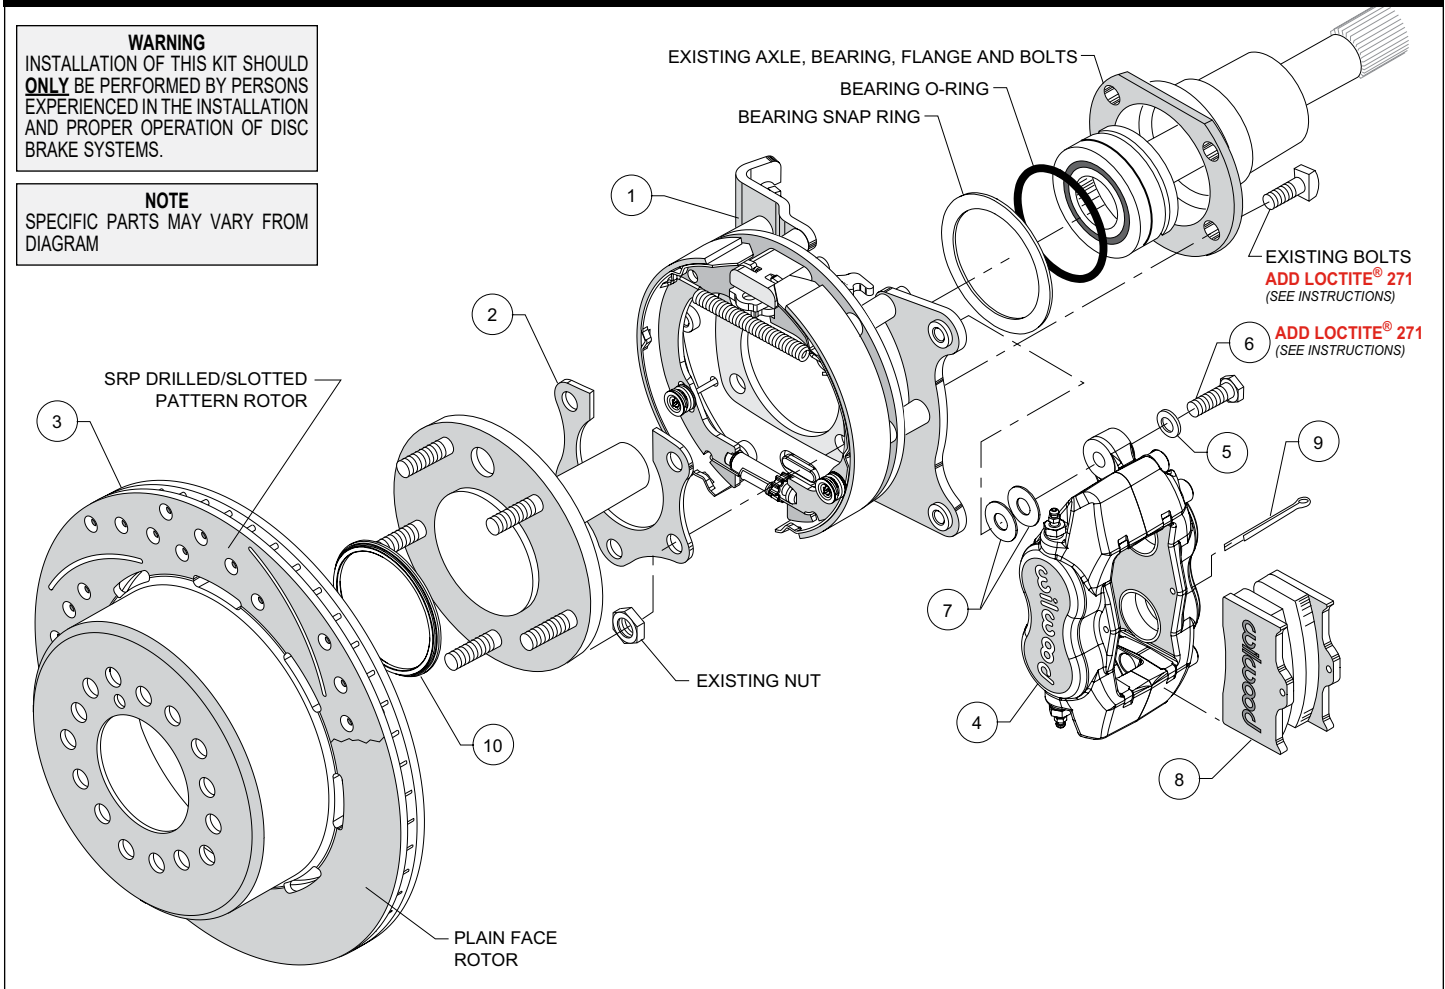

Figure 3. Typical Installation Configuration
NOTE: Numbers in parenthesis refer to the parts list and Figure 3 on the preceding pages.
- Temporarily remove the snap ring and o-ring from the bearing. Use care so as not to damage those components. Orient the bracket assembly (1) as shown in Figure 3 and Photo 1 and slide it onto the axle and past the bearing. Reinstall the snap ring and o-ring onto the bearing, again using care. Insert the axle and bracket into the axle housing. Ensure that the bracket assembly backing plate fits flush against the axle housing flange. **NOTE:** The bearing snap ring should be sandwiched between the axle housing flange and the new bracket assembly.
- Install the bearing retainer (2) with the opening pointing upward and the relief step facing inward (toward the bearing), as shown in Figures 3 and 6, and Photo 2. Secure retainer and bracket assembly to the axle housing flange using the Original Equipment Manufacturer (OEM) bolts and nuts, Figure 3. Apply red *Loctite*® 271 to the OEM bolt threads and torque to OEM specifications.
- Slide the rotor registration adapter (10) onto the axle register on the axle flange with the smaller O.D. facing toward the rotor/hat (3), Photo 3. Align the correct hole pattern in the rotor/hat with the stud pattern on the axle flange and slide into place, Figure 3 and Photo 4. **NOTE:** The rotor/hat must fit flush against the axle flange or excessive rotor run out may result. Install three lug nuts (finger tight) to keep the rotor/hat assembly in place while continuing with the installation. **NOTE:** Some OEM and after market axles come with stud sizes larger than 0.50" diameter. Verify stud size and have a qualified machine shop drill the bolt circle of the hat/rotor to the correct stud size, if necessary.
- **NOTE:** Please reference the caution statement at the beginning of the assembly instructions. Mount the caliper (4) onto the caliper mounting bracket (1) using bolts (6) and washers (5), as shown in Figure 3. Initially place two .035" thick shims (7) on each bolt between the caliper and the bracket, Photo 5. Temporarily tighten the mounting bolts and view the rotor (3) through the top opening